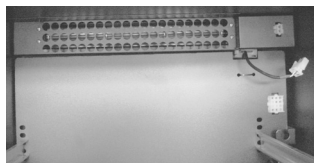

Figure 6 – Upper blower fan
5. Install upper blower fan and plug into existing harness(Fig. 6)
5. Unplug harness and remove upper zone blower fan (Fig. 6)